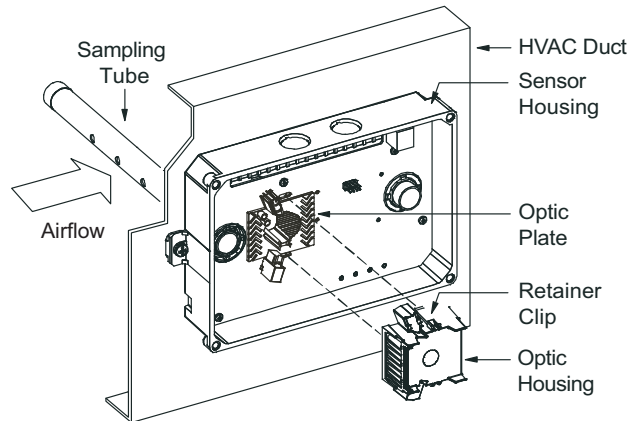

Fig. 64 – Sensor Cleaning Diagram
1. Disconnect power from the duct detector then remove the sensor's cover. (See Fig. 64.)